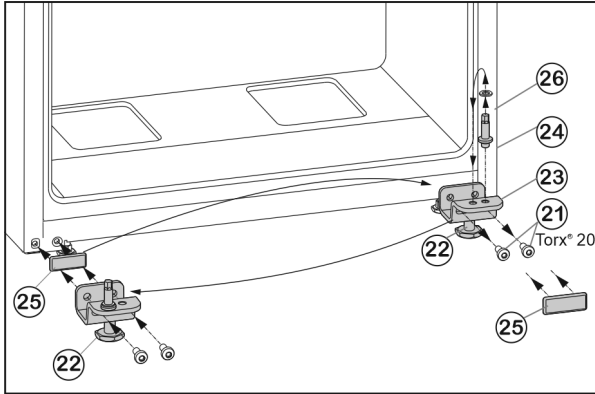

Fig. 7
- Unscrew fastening screws *Fig. 7 (21)*.
- Remove the lower bearing block *Fig. 7 (23)*, complete with bearing bolt *Fig. 7 (24)*, washer *Fig. 7 (26)* and adjustable foot *Fig. 7 (22)*.
- Unscrew the bearing bolt *Fig. 7 (24)*, complete with washer *Fig. 7 (26)*, re-locate it into the mounting hole on the opposite side of the bearing block and tighten again.
- Carefully remove the cover plate *Fig. 7 (25)* and re-locate it to the other side.
- Screw on the lower bearing block *Fig. 7 (23)*, complete with bearing bolt *Fig. 7 (24)*, washer *Fig. 7 (26)* and adjustable foot *Fig. 7 (22)* to the new hinge side, with the help of a cordless screwdriver if necessary, and **tighten (with 4 Nm)** once again.
- Lower the door from above onto the bearing bolt *Fig. 7 (24)*.
- Unscrew the adjustable foot *Fig. 7 (22)* on the lower bearing block *Fig. 7 (23)* until it touches the floor.